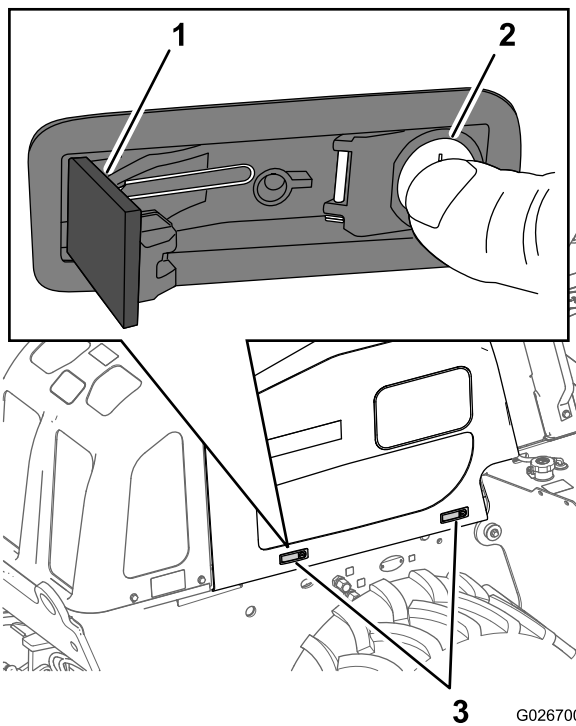

Figure 60
3. Press in the button portion of each latch—the part of the latch including the lock cylinder (Figure 60).
4. Set the latch by pushing in the latch lever (Figure 60).